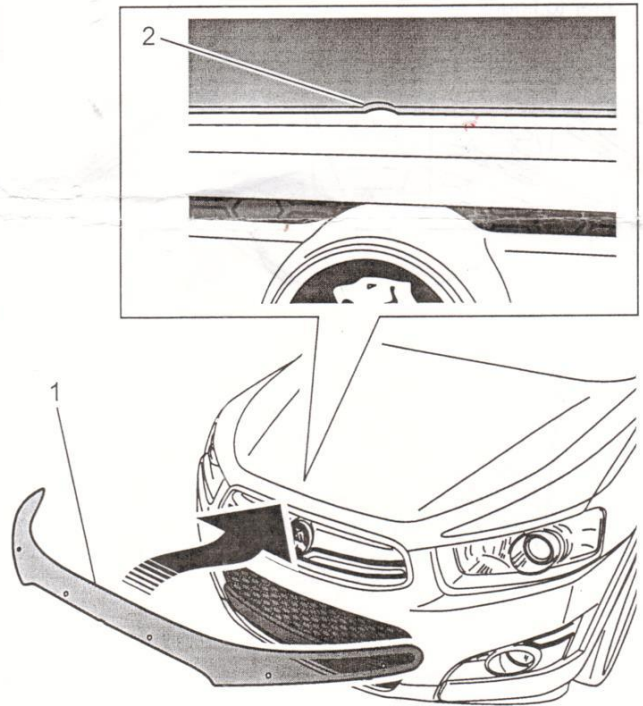

FIGURE 2
2. Trial fit the Bonnet Protector (1) centrally on the bonnet. Use the indentation (2) in the lower edge of the Bonnet Protector as a guide. Refer to figure 2.